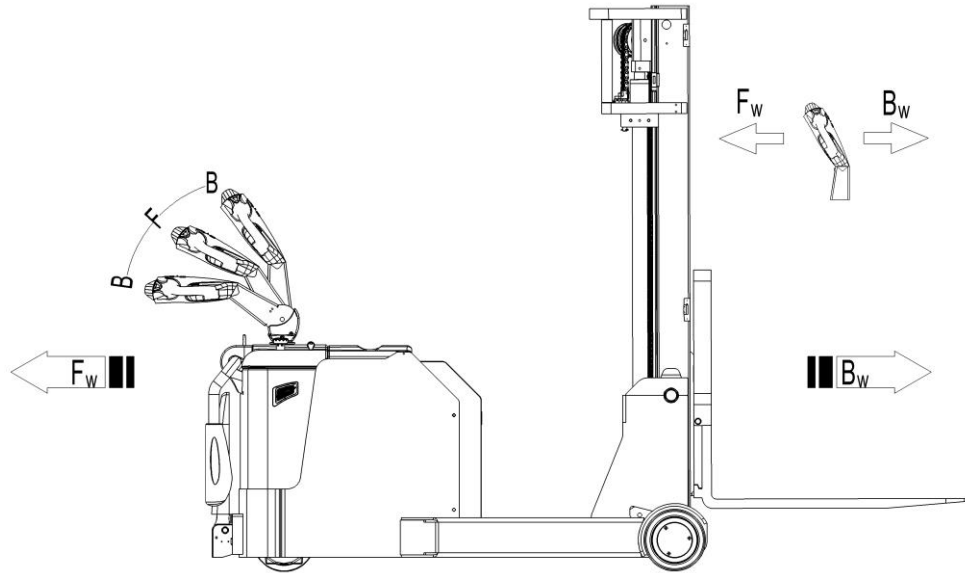

Fig.10: Operating direction
After starting the truck by activation from Pin-code panel and carefully pull out the emergency button. Then move the tiller to the operating zone ('F', Fig.10).
Turn the accelerator knob to the desired direction forward 'Fw.' Or backwards 'Bw.'(Fig. 10). Control the travelling speed by moving accelerator knob (10) carefully until you reached desired speed. If you move the accelerator knob back to the neutral position, the controller decelerates the truck until the truck stops. If the truck stops, the parking brake will be engaged.